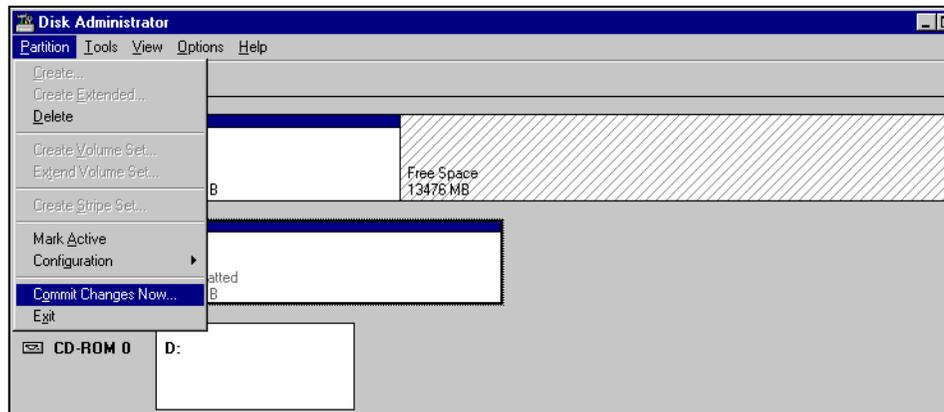

Figure 1-23 Commit changes
6. Prior to the format volume task, you should commit all changes which have been made, as shown in Figure 1-23.